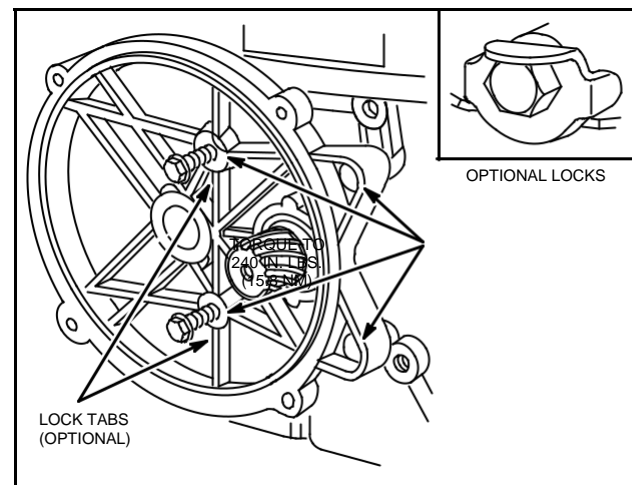

Fig. 141 – INSTALLING GEAR CASE
6. Bend locks up against flats on head of cap screws, Fig. 141.